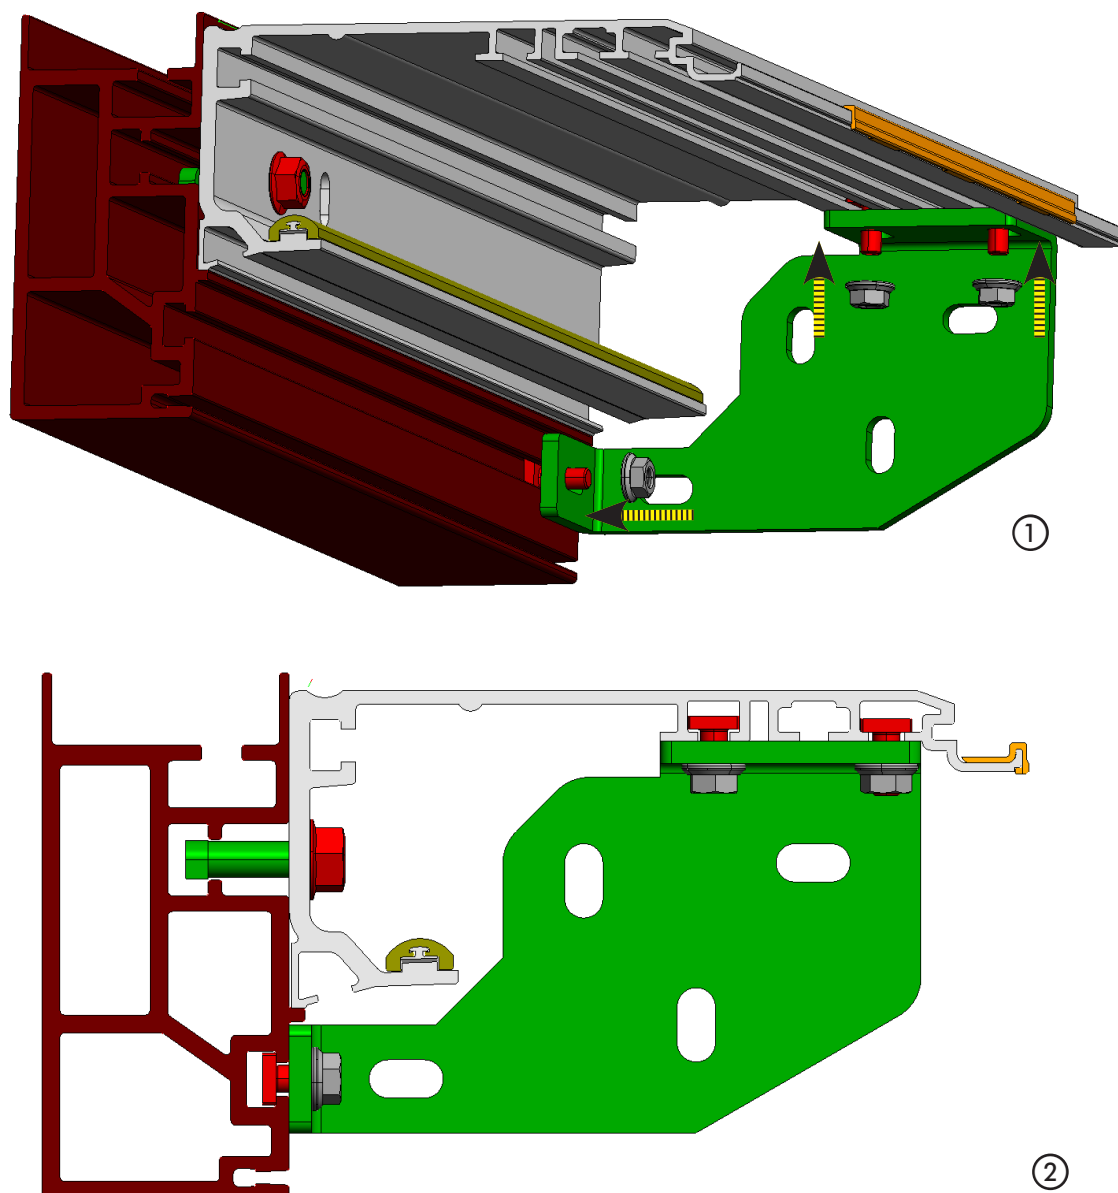

fig.55
- Position the plates in the relevant seats and secure the side plates using the three fastening screws M8. fig.55
The free-standing profile is supplied already assembled to the support profile and with side brackets already fitted on the cross beam fig.55
- Secure the cross beam to the wall using the holes on the side plates (fig. 55. ②) and by means of suitable dowels (not standard-supplied).